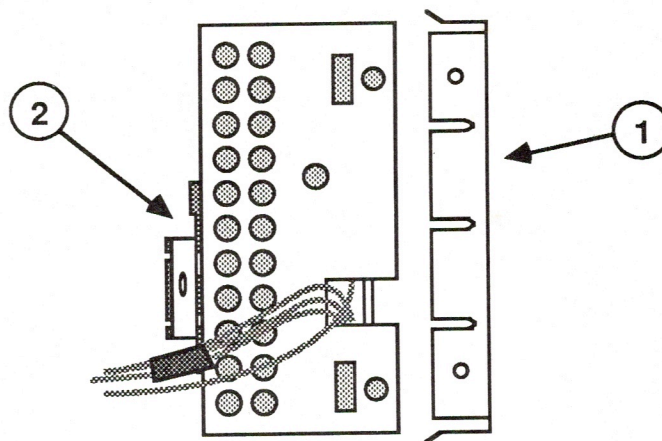

FIGURE 13
1. Replace the back cover (Figure 13, #1) on the video board "C."
2. Slide the video board "C" onto the CRT neck. Tighten the screw (Figure 13, #2) on the ring clamp just enough to keep the assembly from slipping.